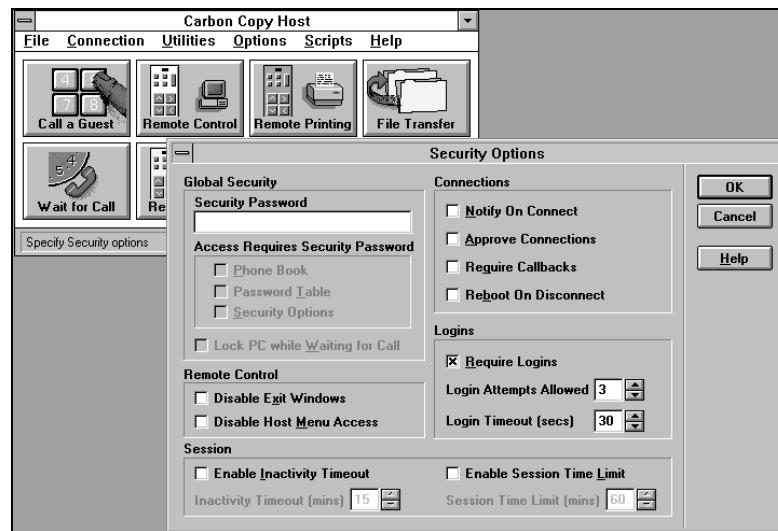

Figure 11-16: When you first make a connection, it is a good idea to turn on the Reboot on Disconnect feature.
3. Select the Security... command. Carbon Copy opens the Security Options dialog box (See Figure 11-16.)